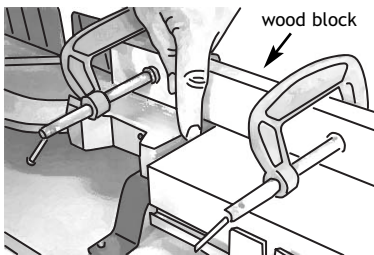
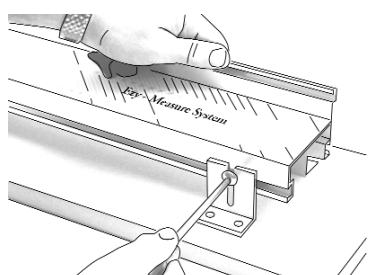

fig. 2 Clamp a wood block on either side to align each unit.
fig. 5 Adjustable Legs
1. With your power saw mounted to the bench, the first step is to assemble the measuring system and fix it into position. Fit the two parts of the measuring system together then fix the adjustable legs to the base using the screws and nuts provided. Position the system to the right-hand side of the saw - screw it into place after first aligning the back of the system with the back of the saw. see fig 2.
2. The back fence of the system and the saw should be in alignment. A wood block clamped on either side (as in fig 2) will make this job easier. Adjust the height of the measuring table so that it is the same height as the saw table. With some heavy duty power saws you may have to place spacer blocks under the legs of the measuring system to build it up to the same height as the power saw - see fig 5.